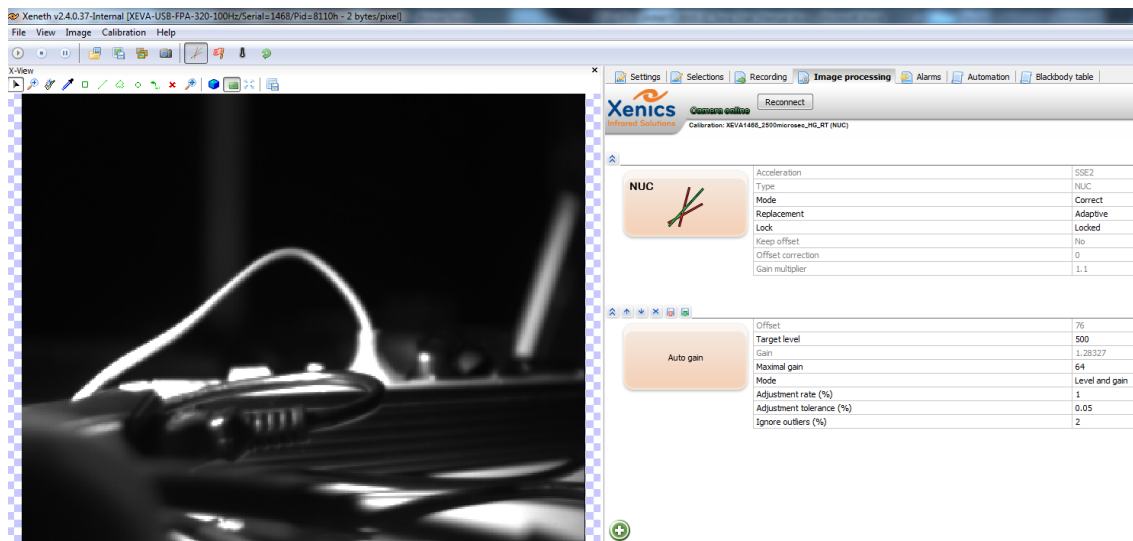

Figure 12-22 Enabled software filters
1. Load the calibration pack (see Figure 12-22)